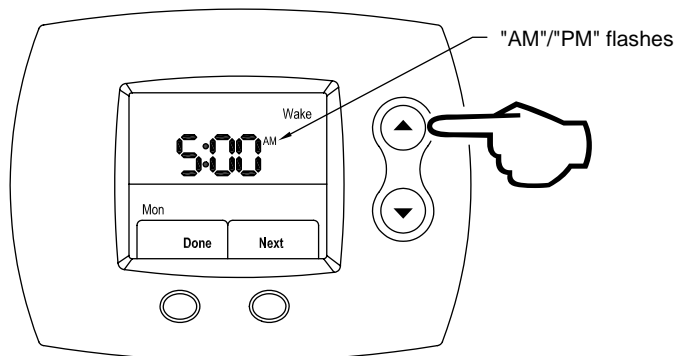

Figure 80
Step 6: Next, using the **UP** (index AM / PM) or **DOWN** (index AM / PM) buttons, select AM / PM, as shown in Figure 80.